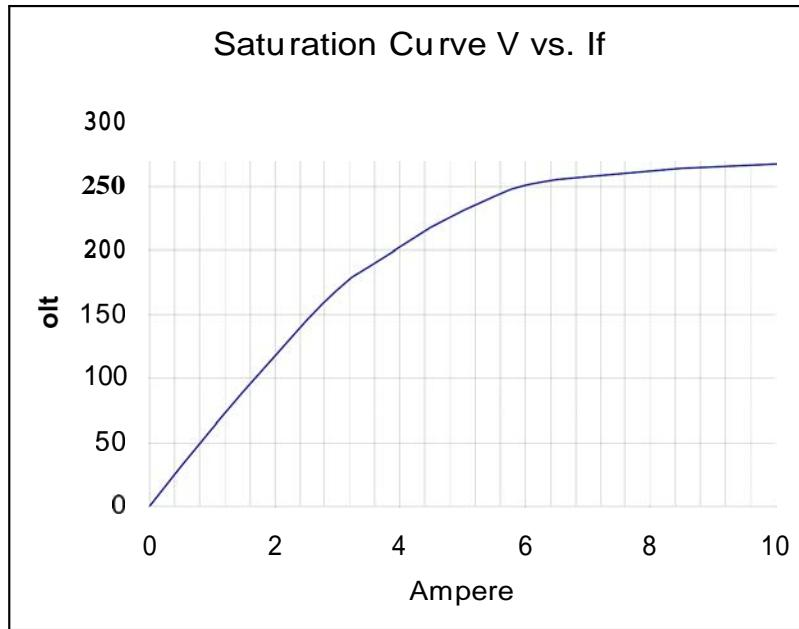

FIGURE 9.2
2. A 60 Hz. 10 hp 208 V synchronous motor with a nominal pf of 0.8 leading and wye connected has synchronous impedance ( $X_s$ ) of 2.7CI. The windage-friction and iron losses are equal to 400 W and to 250 W respectively. Calculate using the Figure 9.1 and Figure 9.2: